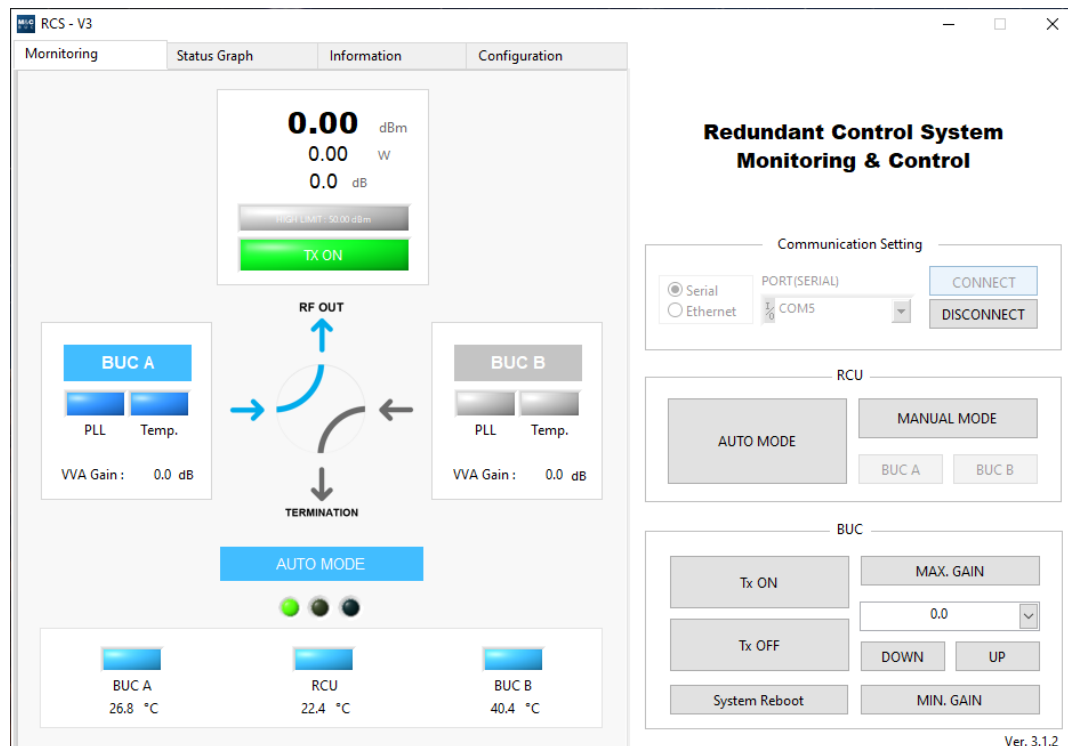

Figure 3.1 – System Diagram
2. The program will start as shown in **Figure 3.1**.